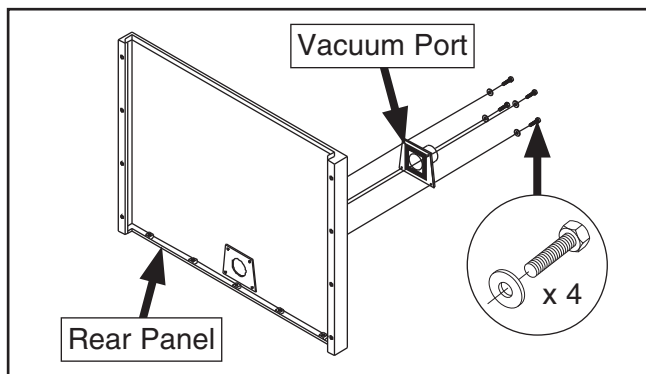

Figure 31. Vacuum port attached to rear drum panel.
38. Attach collection drum vacuum port to back of rear drum panel with (4) $\frac{5}{16}$ "-18 x $\frac{3}{4}$ " hex bolts and $\frac{5}{16}$ " flat washers (see **Figure 31**).